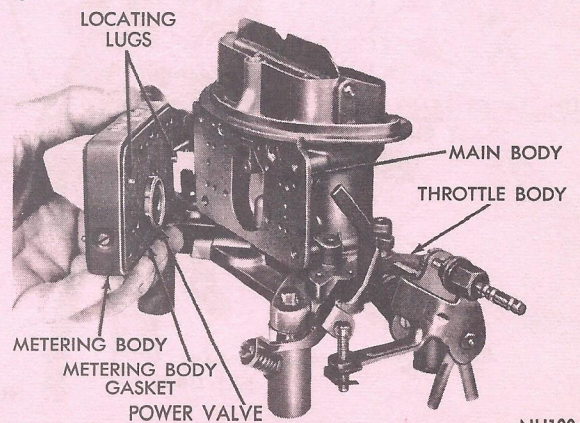

Fig. 5—Removing or Installing Metering Body
(3) Remove metering body, then discard gaskets (Fig. 5).